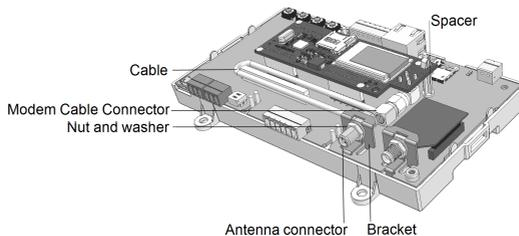

Figure 29: GSM modem on a Data Logger board
1. Insert the top of the plastic spacer through the opening in the GSM modem, as shown in *Figure 29*.